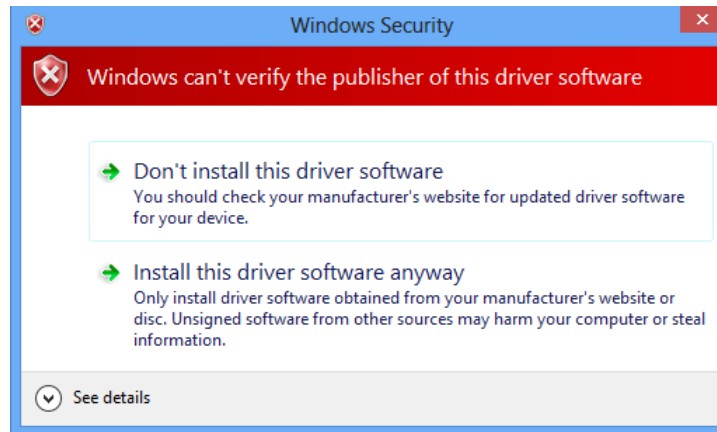

图 36. Install Driver After Disabling Enforcement
6. When the driver finally boots into the operating system, users can manually install the unsigned driver. The message in 图 36 appears, select the *Install this driver software anyway* option.